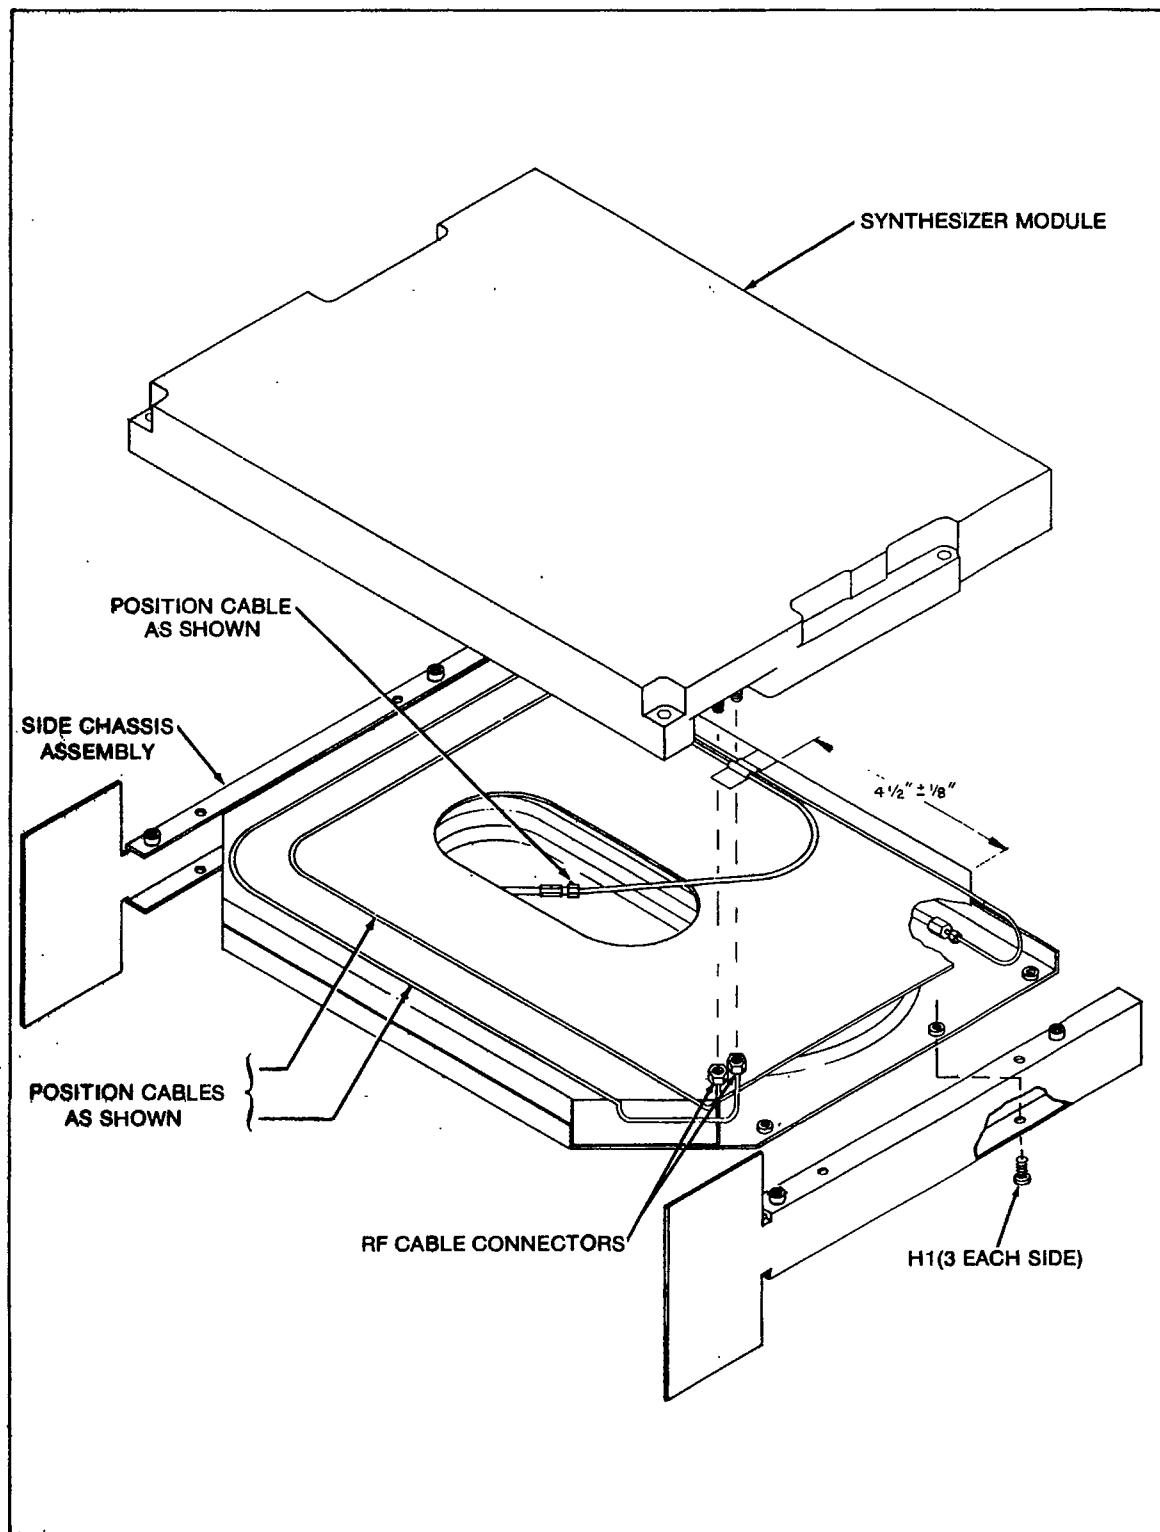

Figure 3-11. Cable Locations
To avoid cable damage when swinging the Synthesizer Module back in place, make sure that the cables between the synthesizer plate and the Delay Line are in the positions shown in Figure 3-11.
- c. Swing the Synthesizer Module completely into position; make sure that the semirigid coaxial cables between the Synthesizer Module and the Delay Line are in the positions shown in Figure 3-11. This insures that these cables are not